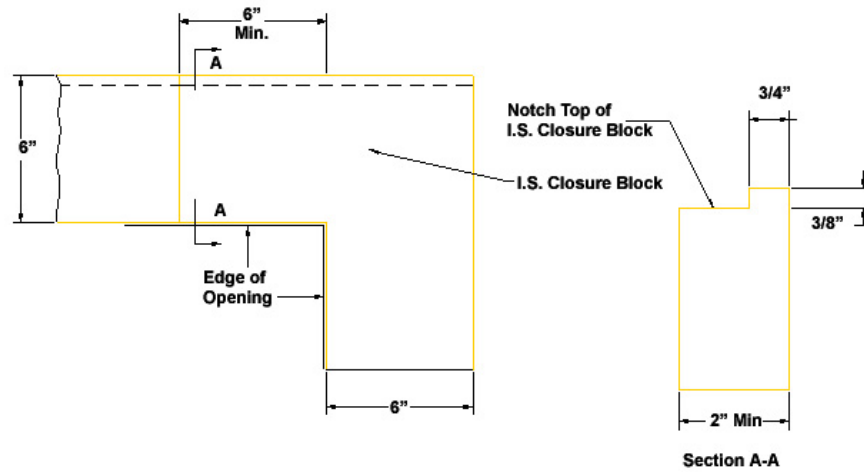

Figure 25
- h. Offset the joints of the I.S. Closure Blocks a minimum of 6 in (152 mm) from the corner of the opening by using an L-shaped closure block at each corner as shown in Figure 25.